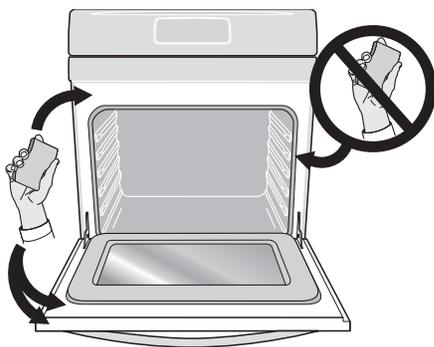

Figure 11: Clean around the oven door gasket
- Clean any soil from the oven frame, the door liner outside the oven door gasket, and the small area at the front center of the oven bottom. These areas heat sufficiently to burn soil on. Clean with soap and water. These areas are shown in white (Figure 11).
- Do not clean the oven door gasket (Figure 11). The woven material of the oven door gasket is essential for a good seal. Care should be taken not to rub, damage, or remove the gasket.